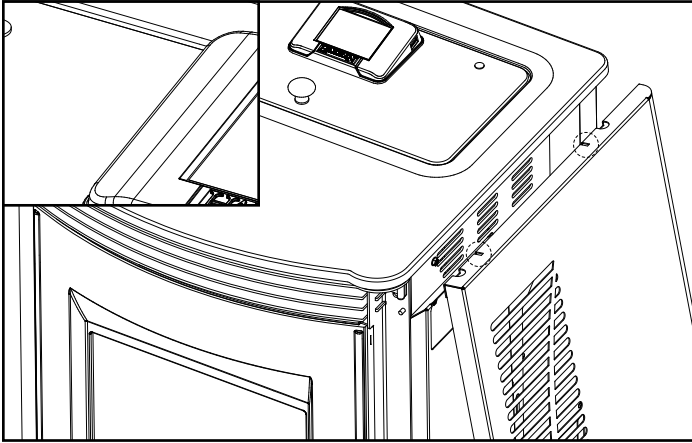

Figure 1
**Step 1 - Installing Side Panels:** Locate the cut-outs in the top of the panel that marry to the hooks located underneath the cast top. Once in place simply place the bottom of the panel flush against unit. Figure 1.